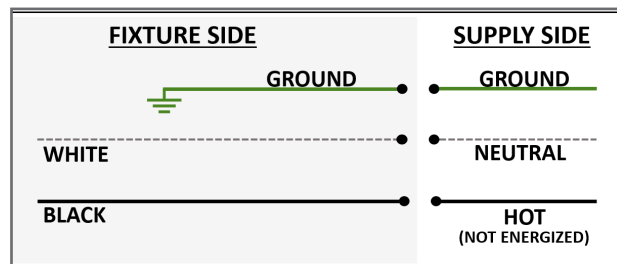

FIGURE 11
5. Route the input wires through the chosen knockout and make electrical connections according to Figure 11.